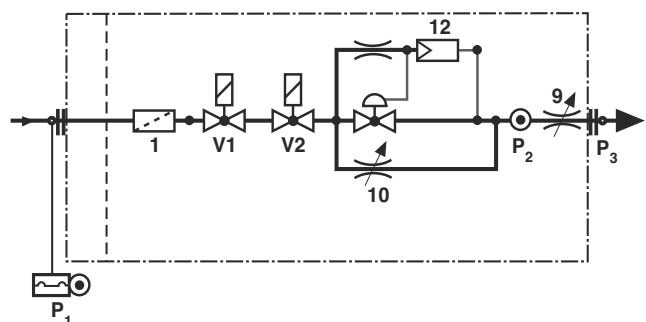

Fig. 9
- A. measuring nozzle P2 (Fig. 9) before valve D
- C. startup valve (no. 10 in Fig. 9)
- D. maximum flow rate valve (no. 9 in Fig. 9)